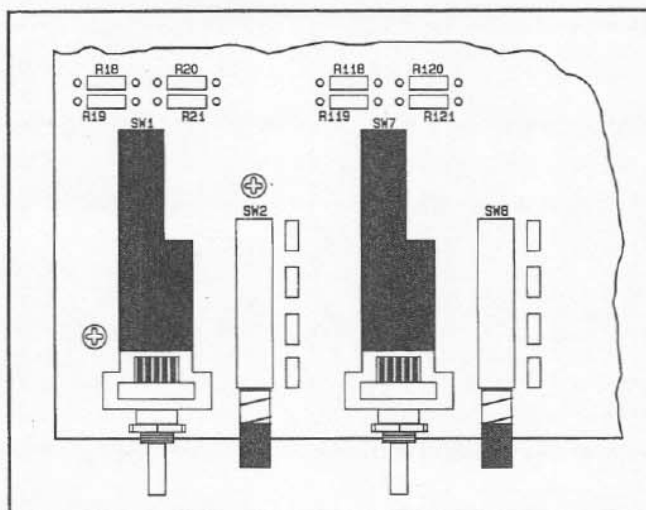

Figure 9: Location of Fixed Frequency Resistors
Provisions have been designed into the crossover that allow the user to bypass the front panel FREQUENCY controls and permanently set the crossover frequency to one fixed value. This may be used if one of the selectable frequencies will not suit a particular application or the user may simply wish to permanently set the unit to one of the frequencies already provided. In either case, the unit's crossover frequency will be fixed at one set value. This modification is performed by adding four resistors to each crossover circuit. The resistor locations are designated by R18, R19, R20, R21 in Channel 1 and R118, R119, R120, R121 in Channel 2. These resistor locations are shown in Figure 9.
3. Find the resistor locations R18 - R21 and/or R118 - R121. Refer to Figure 9.